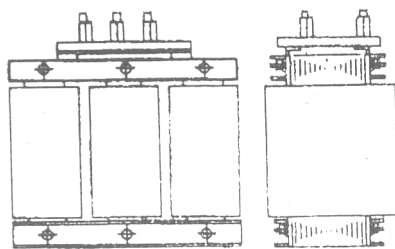
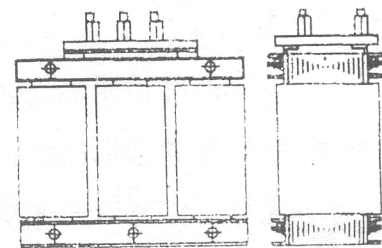

Figure 1
Figure 2
national standard. When using duplex winding and multi-control voltage (tap style), such as BK, JMB transformer please respectively reduce capability according to max voltage ratio of primary and secondary voltage, namely, current may not exceed calculated value of max voltage; For transformer that adopts winding to divide power capacity, it is necessary to control power capacity of each winding strictly to prevent transformer from burning. For configuration and character of winding, please refer to figure 1.
Character of duplex winding tap style is shown as figure 1. Primary and secondary winding of transformer respectively change voltage value with lead tap of the same specification, set high-pressure level as rated value, reduce capability according to dropping ratio of voltage. In case that use two kinds of voltage at output terminal synchronously, the current valued should not be exceeded (Current is rated value.)
Character of multi windings of fractional power is shown as figure 2. There is one winding at primary winding, and various windings at negative pole that loads separately, hereby, each winding should not exceed specified value.
- 4.1. For configuration type, please refer to figure1 and figure2.